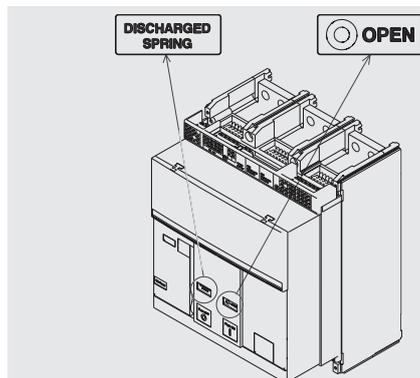

Figure 38
1. Check that the circuit-breaker is open (open / closed indicator "O - OPEN"), and check that the springs are discharged (spring signalling device "white - DISCHARGED SPRING") as indicated in Figure 38.